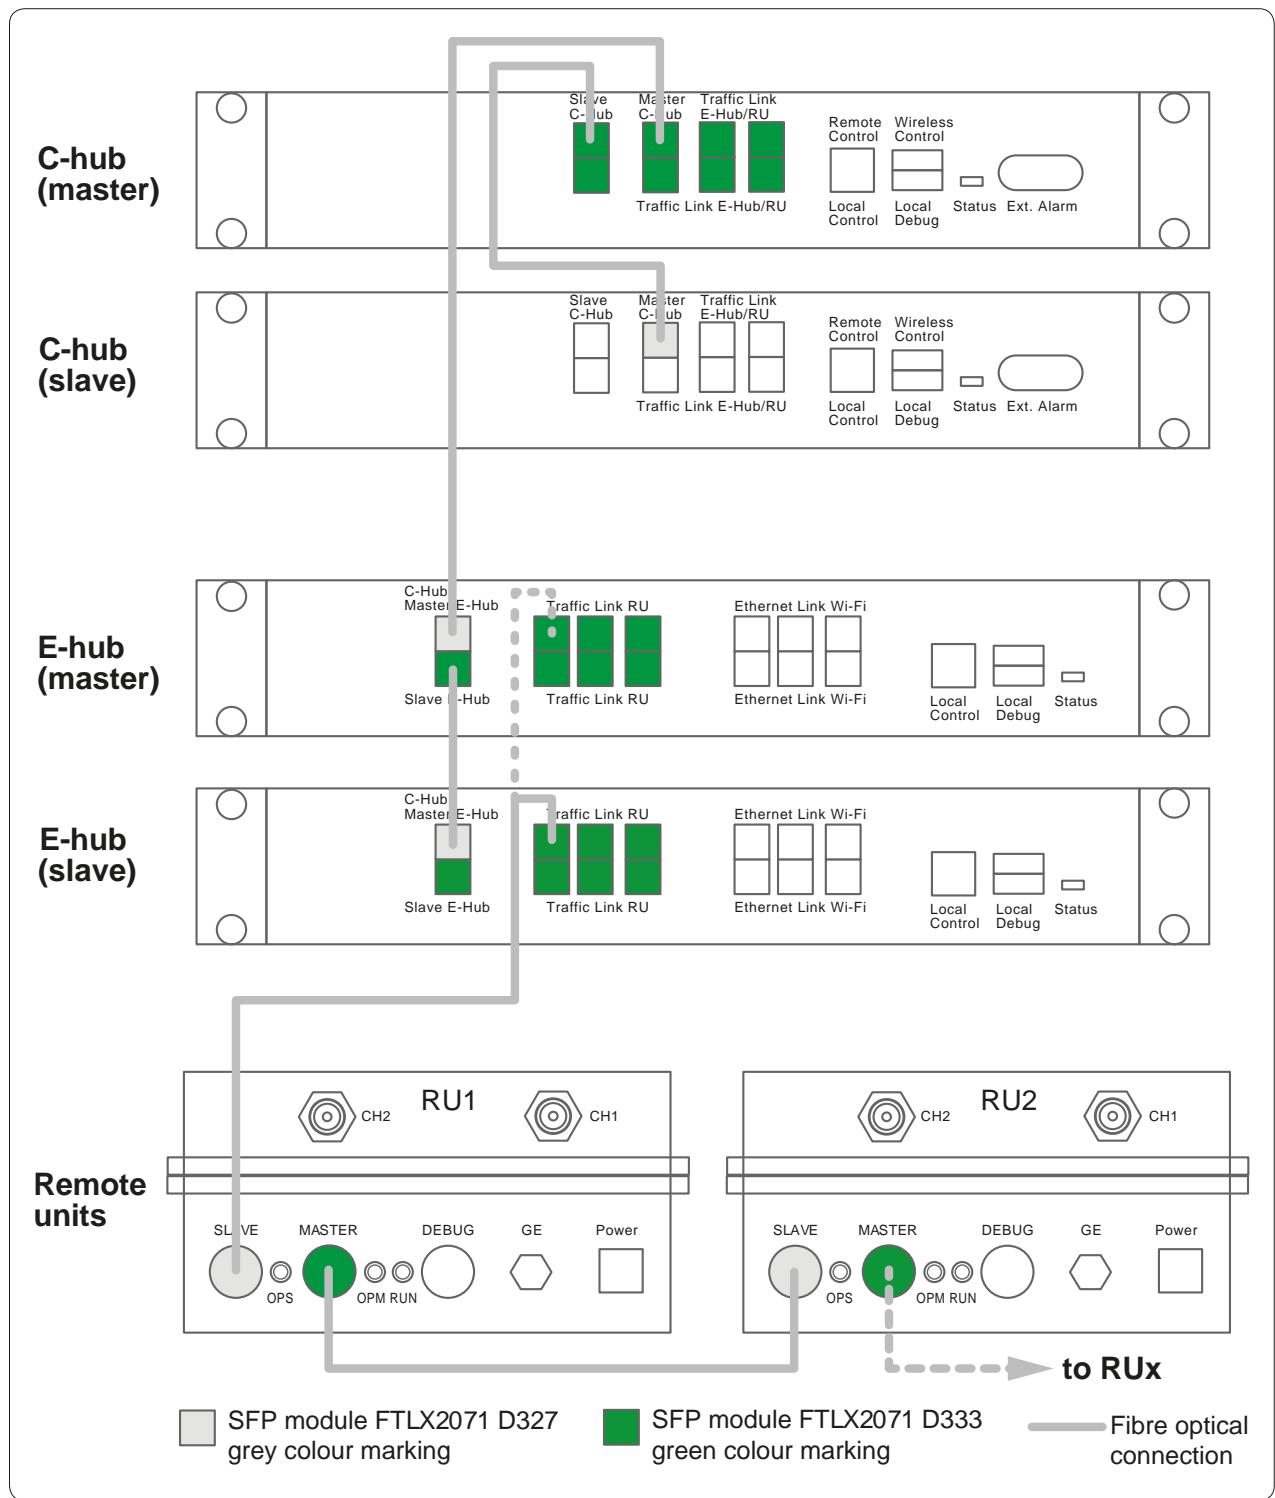

Fig. 35: Fibre optical cable layout
1. Carefully insert the required SFP modules. In doing so, observe the colour labelling of the SFP modules indicated in Fig. 35.
2. Remove the protective caps (fibre optics, SFP modules) and install the required fibre optic connections. Fig. 35 gives an overview.